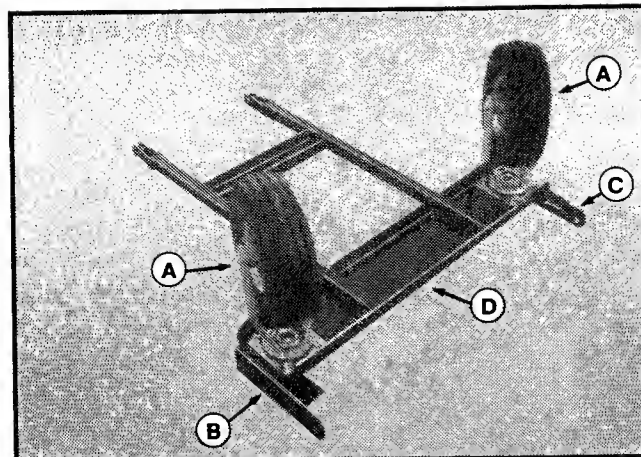

Figure 2
1. Install the swivel wheels (A, figure 2) with right pivot bracket (B) and left pivot bracket (C) to the frame (D) with eight 3/8 x 1 capscrews, flat washers, and locknuts.